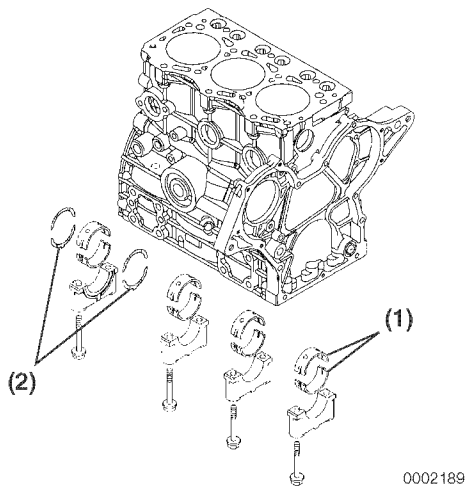

Figure 6-90
2. Install new bearing inserts (Figure 6-90, (1)) and thrust bearing (Figure 6-90, (2)) in the cylinder block and main bearing caps. Be sure the oil holes in the upper bearing shells align with the oil ports in the cylinder block. Apply a liberal coat of clean engine oil to the bearings and crankshaft journals.